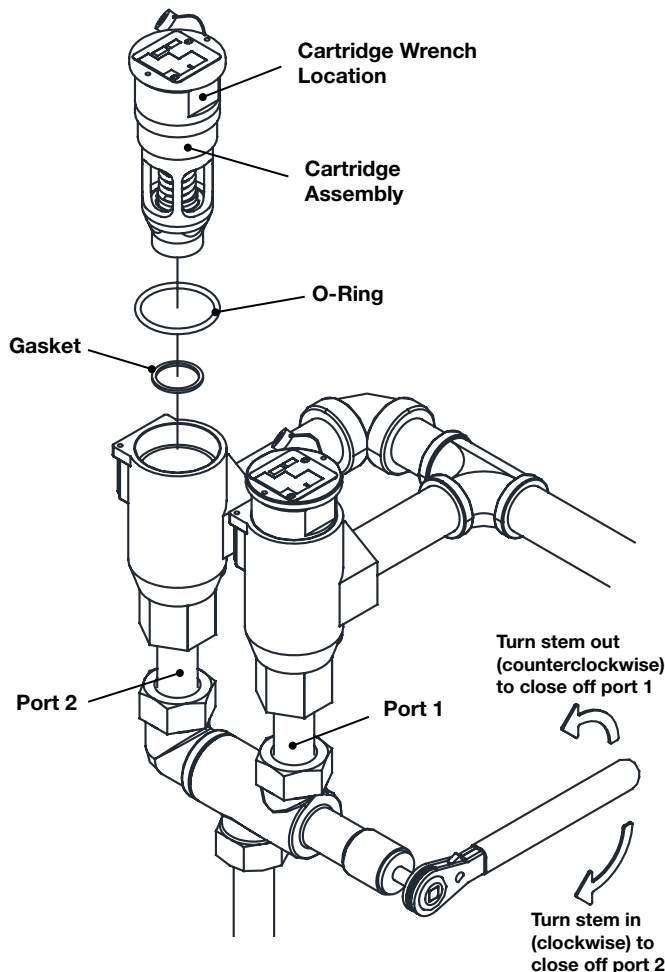

Figure 3: Replacing a Safety Relief Valve Cartridge
After completing the manifold and dual safety relief valve installation it is important to backseat the manifold so that port 1 is closed off. This is accomplished by turning the stem counterclockwise until it stops, as shown in Figure 3.
2. Remove the cartridge from the body by using the wrench flat on the cartridge as show in Figure 3. It may be necessary to hold the valve body while removing the cartridge to prevent the body from unthreading from the pipe.